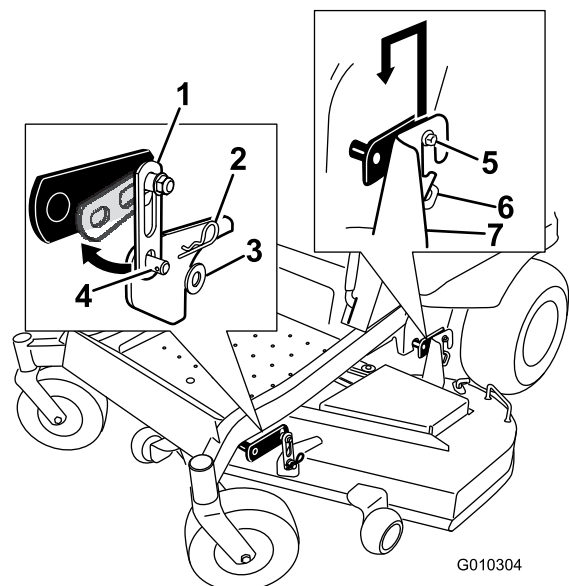

Figure 68
2. Remove the hardware from the front deck hangers on both sides of the deck (Figure 68).
3. Carefully lift the deck off the rear hanger bolts and lower the front of the mower deck to the ground (Figure 68).
5. Lift the rear of the mower deck and guide the hanger brackets over the rear hanger bolts (Figure 68).
6. Attach the front support on the mower deck to the front deck hangers and secure them with a washer and hairpin cotter (Figure 68).